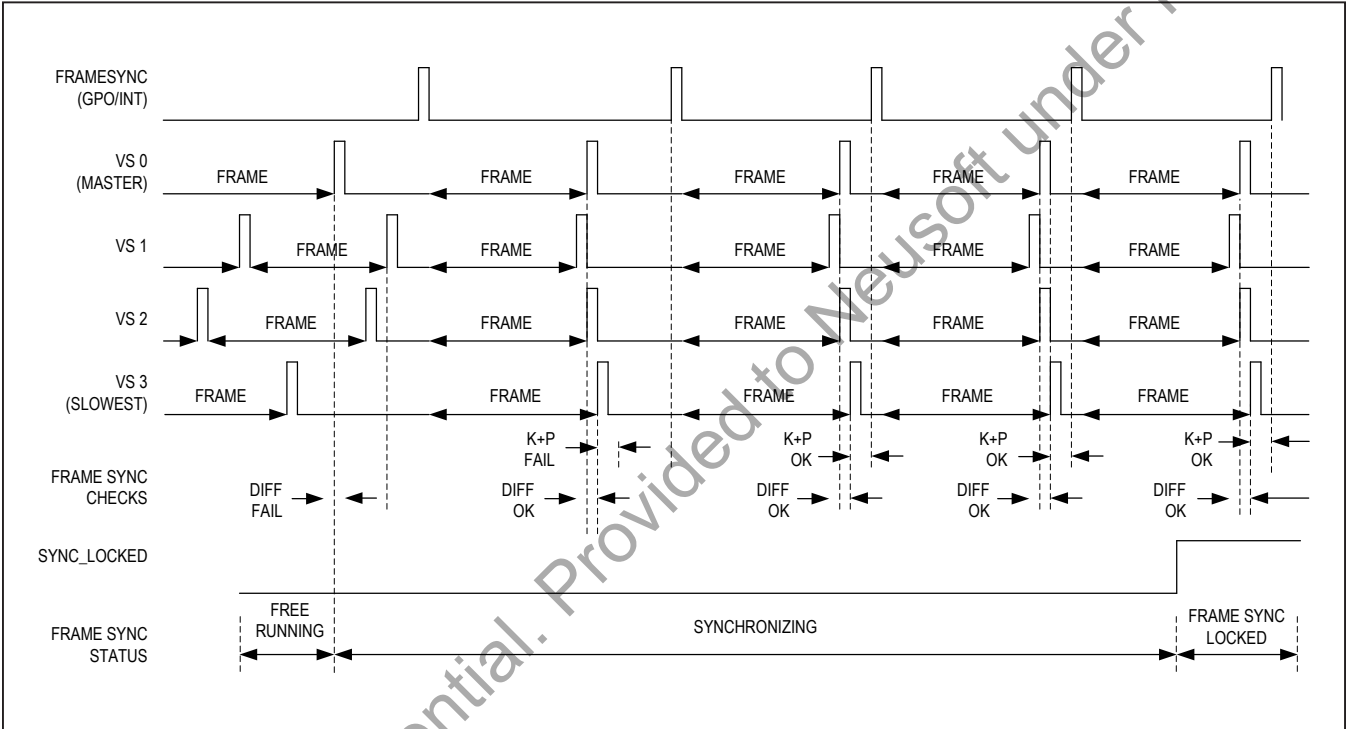

Figure 45. Example Frame Sync Operation (Automatic Mode)
- **Automatic Mode (FSYNCMETH = 1X) (Figure 45)**